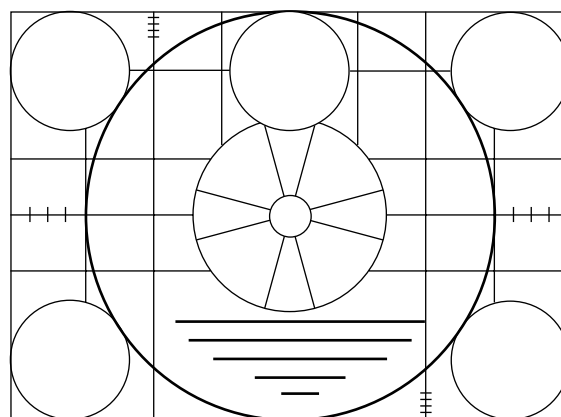

Fig. 4
- Use the volume keys on the jig remote controller to adjust the circular figures on monoscope to be true circles. (Fig. 4)